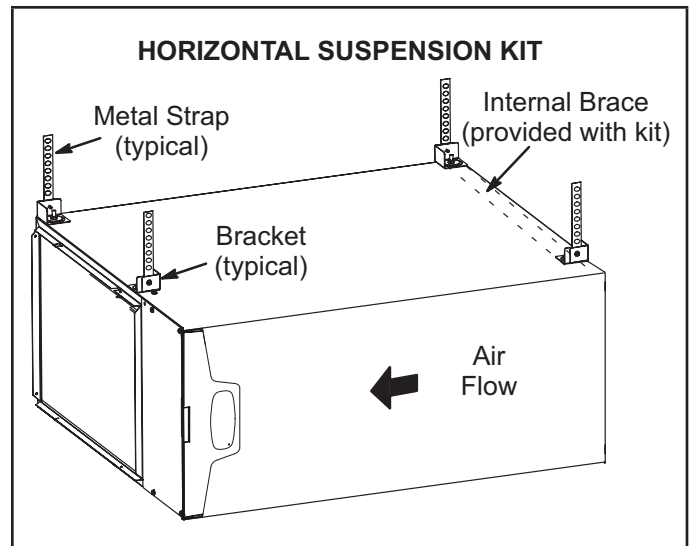
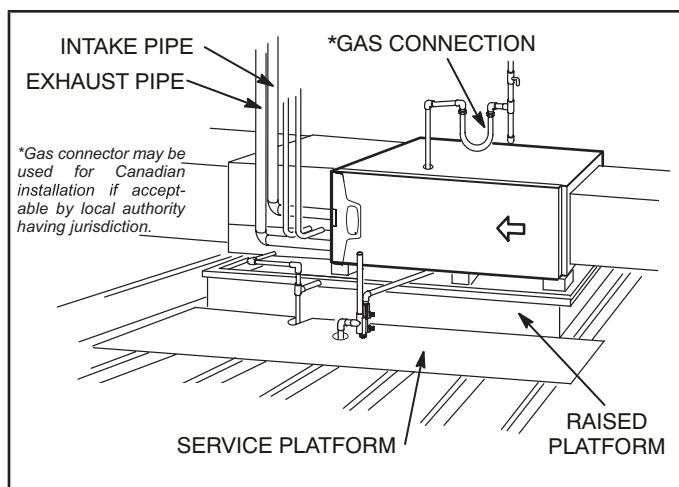

Figure 18
Figure 19
This furnace may be installed in either an attic or a crawlspace. Either suspend the furnace from roof rafters or floor joists, as shown in figure 18, or install the furnace on a platform, as shown in figure 19. A horizontal suspension kit (51W10) may be ordered from Lennox or use equivalent.
- 2 - Construct a raised wooden frame and cover frame with a plywood sheet. If unit is installed above finished space, fabricate an auxiliary drain pan to be installed under unit. Set unit in drain pan as shown in figure 19. Leave 8 inches for service clearance below unit for condensate trap.